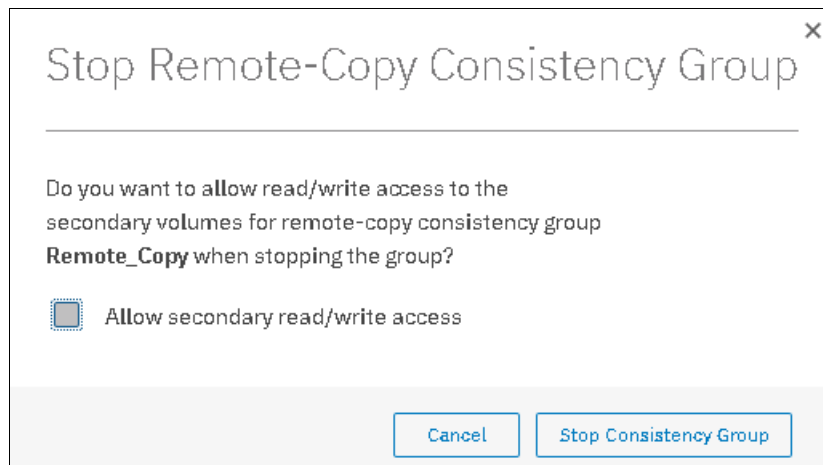

Figure 10-121 Stop Remote Copy Consistency Group window
3. The Stop Remote Copy Consistency Group window opens, as shown in Figure 10-121. To allow secondary read/write access, select **Allow secondary read/write access**. Then, click **Stop Consistency Group**.